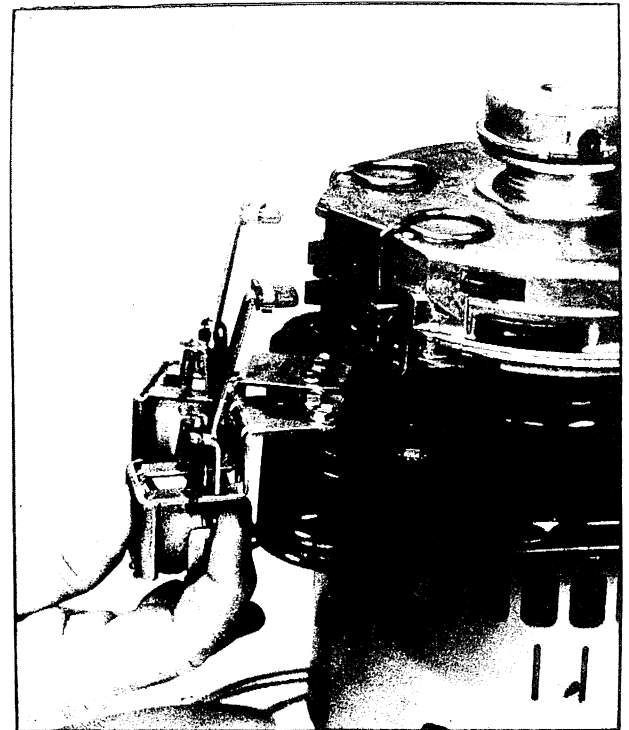

Figure 93
5. Final check should be made with full load of water, check all speeds, listen for unusual noise, see Figure 93.